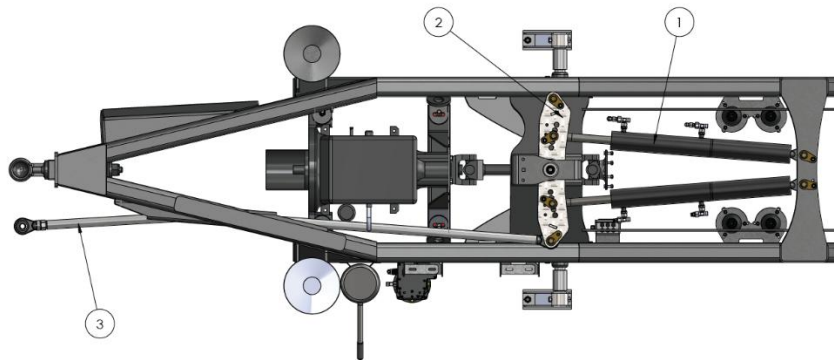
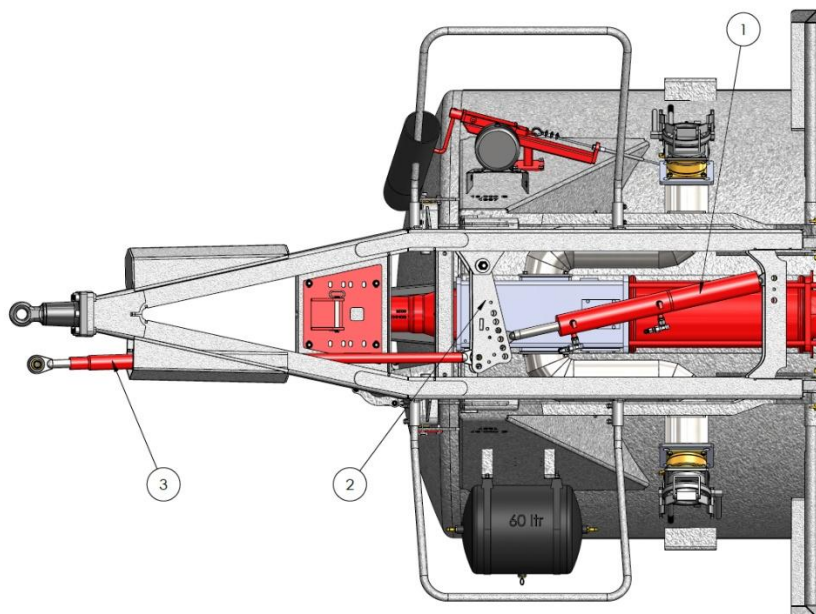

Figure 11-1 Steering system on a machine with two hydraulically steered axles
Figure 11-2 Steering system on a machine with one hydraulically steered axle
A general overview of the different hydraulic steering system components on the chassis can be seen in Figure 11-1 and Figure 11-2. In a hydraulic steering system, each steered axle is controlled by its own command cylinder (1). This cylinder is connected to the steering rod (3) attached to the tractor by means of a tilting mechanism (2).
Hook up the machine behind the tractor and drive several meters (30 m) ahead in a straight line before measuring and adjusting the steering rod. The length of the steering rod must be adjusted so that the tilting mechanism (2) from Figure 11-1 at a right angle to the direction of travel. This can be checked by measuring the length of the command cylinders, see Figure 13-1.